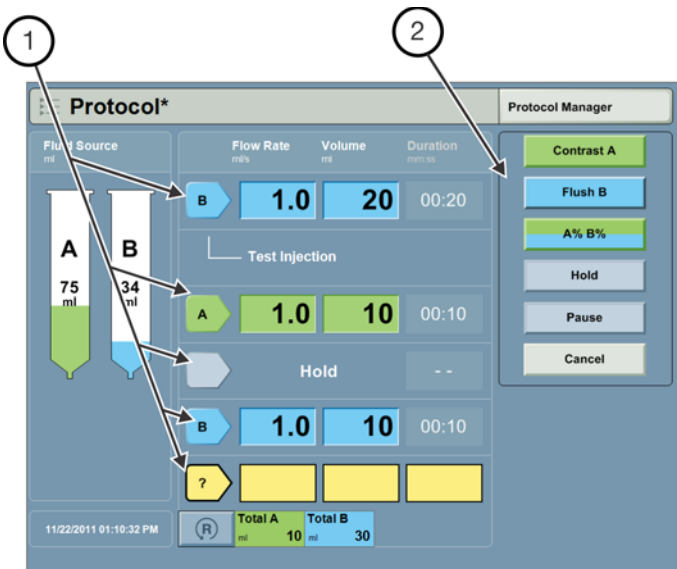

Figure 8 - 1: Select Phase Type
1. Select an arrow (1) to create or edit a protocol (Figure 8 - 1: Select Phase Type).